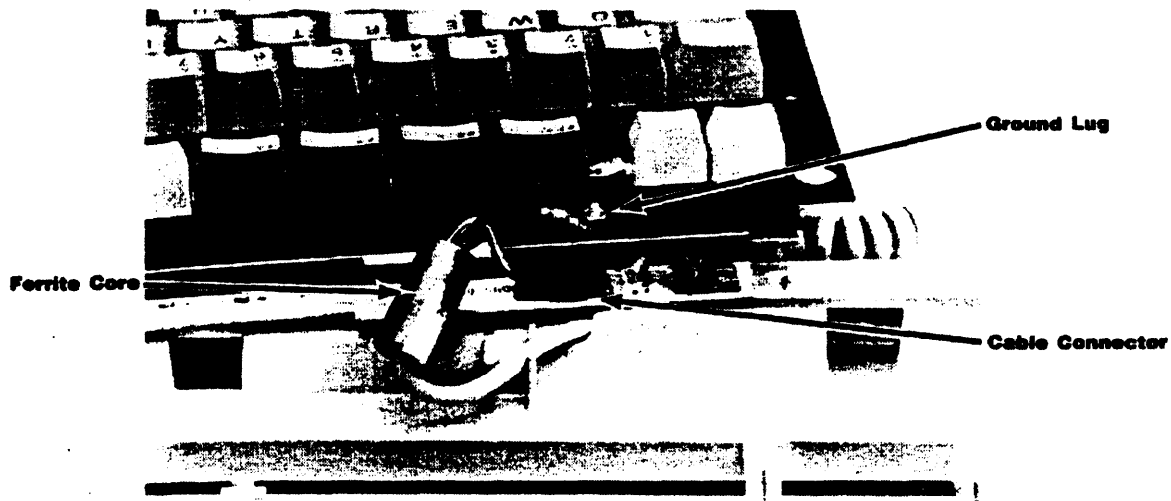

Figure 6-37. Keyboard Assembly—Cable Connector and Ground Lug
7. Carefully unplug the cable connector. See figure 6-37.
8. Disconnect the ground lug. See figure 6-37.
Reassembly Notes: Install the keyboard cable exactly as shown in figure 6-37.